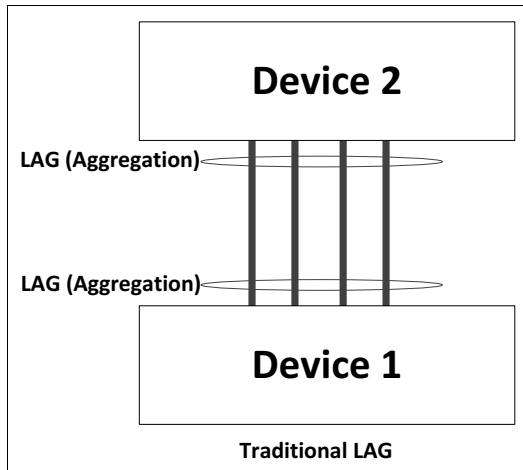
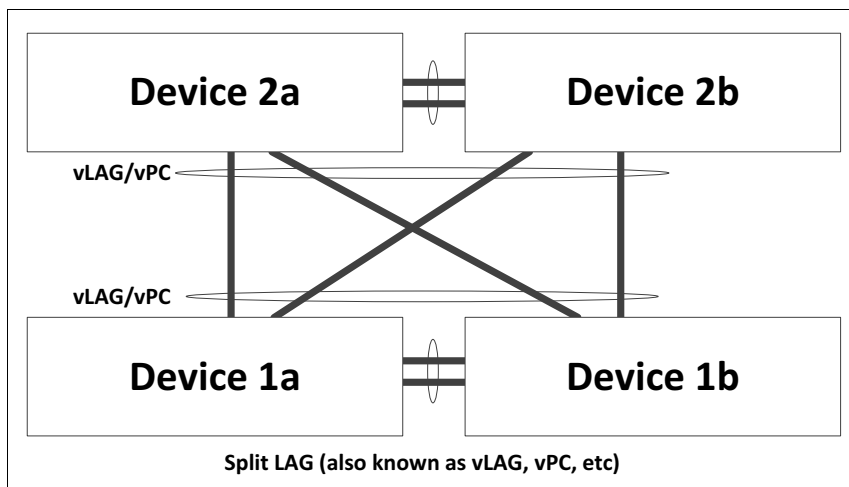

Figure 4-1 Example of a simple Link Aggregation
Figure 4-2 Example of cross switch aggregation with vLAG
- ▶ *Link Aggregation (LAG)* is also referred to as PortChannel, Etherchannel, trunking, and other terms. This section uses the terms Aggregation or LAG to refer to the bundling of physical links to act as a single logical link. Figure 4-1 on page 49 shows an example of traditional LAG with a simple, four-port aggregation (the maximum number of ports that are supported in an aggregation is vendor and device specific). Aggregations with a Lenovo switch use standards body (IEEE 802.3AX LACP) or industry standards (for static aggregation) to ensure compatibility between vendors.
By current standards definitions, an aggregation can connect two devices only (see “Traditional LAG” in Figure 4-1). In traditional LAG, if one device on either end of the aggregation fails, the entire path is gone. By using vLAG, you can take a pair of switches and make them logically act as a single switch for aggregation purposes (see the split LAG example in Figure 4-2). This example splits the aggregation on the end that is running vLAG (or both sides if the other side is also running some form of split LAG); therefore, a single switch failure in that pair does not take down the entire path.
The Tier ID is a mandatory configuration for vLAG. This Tier ID must be the same on a pair of vLAGed switches, but unique between pairs of connecting vLAGed switches. As shown in Figure 4-2 on page 49, switches 1A and 1B use a common Tier ID. Switches 2A and 2B also use their own common Tier ID, but it is different from the Tier ID that is used by switches 1A and 1B.